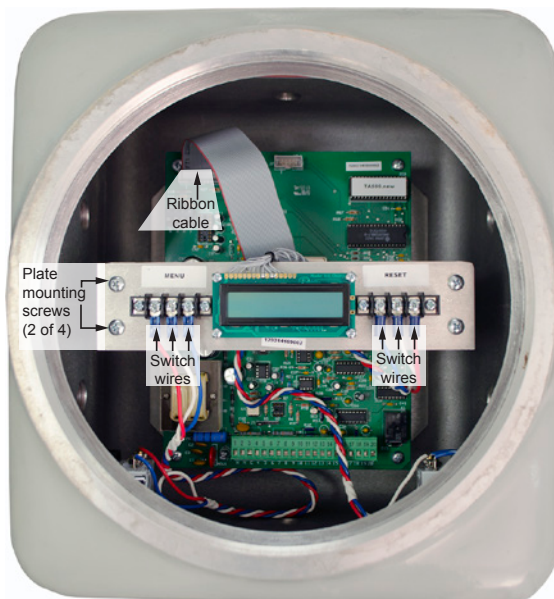

Figure E.7—TA-1000 explosion-proof package with lid removed
3. Unplug the thick gray ribbon cable (Figure E.7, Page E-4) from the circuit board.
4. Disconnect the switch wires (Figure E.7, Page E-4) from the terminal strips mounted to the metal plate across the top of the enclosure and move the wires to the side.
5. Unscrew the four screws holding the metal plate in place (Figure E.7, Page E-4) and lift out the existing display and the metal plate. Discard the metal plate and display and retain the screws for later use.